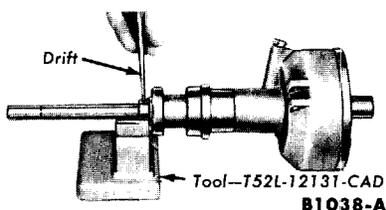

FIG. 8—Collar Retaining Pin Removal or Installation
14. Remove the shaft collar roll pin (Fig 8).
4. Place the collar in position on the shaft and align the holes in the collar and shaft, then install a new pin (Fig. 8). Install the distributor cap clamps.